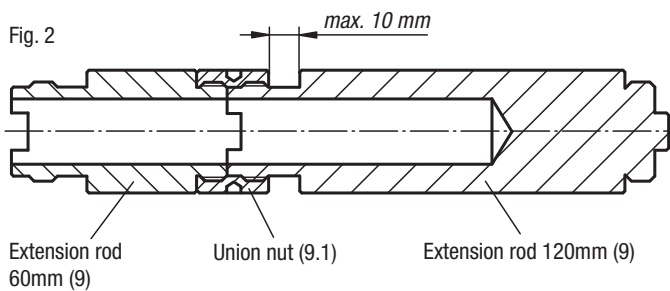

Fig. 2
- When assembled, the spacing between the union nut (9.1) and the extension rod (9) may not exceed 10 mm (Fig. 2)